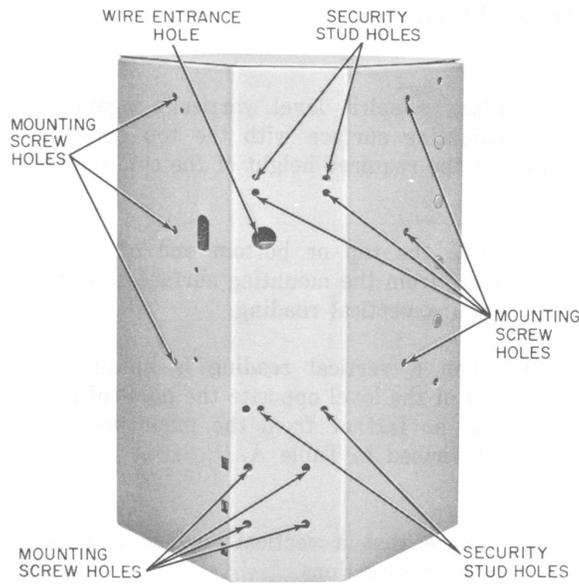

Fig. 2—Location of Mounting Screw and Security Stud Holes
2.03 Refer to Fig. 2 for mounting screw and security stud locations in the telephone.